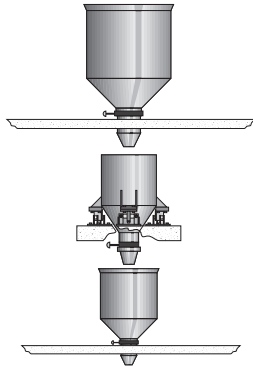

Figure 1-8
- D.** This arrangement is similar to Example C, however, a lower surge hopper has been added to speed up the discharge cycle. This system, shown in Figure 1-8, is typically used in multi-draft grain loadout systems where multiple drafts are required to fill a rail car or barge. The weight of each draft can be accumulated and the target weight of the final draft adjusted to achieve the desired car net load.